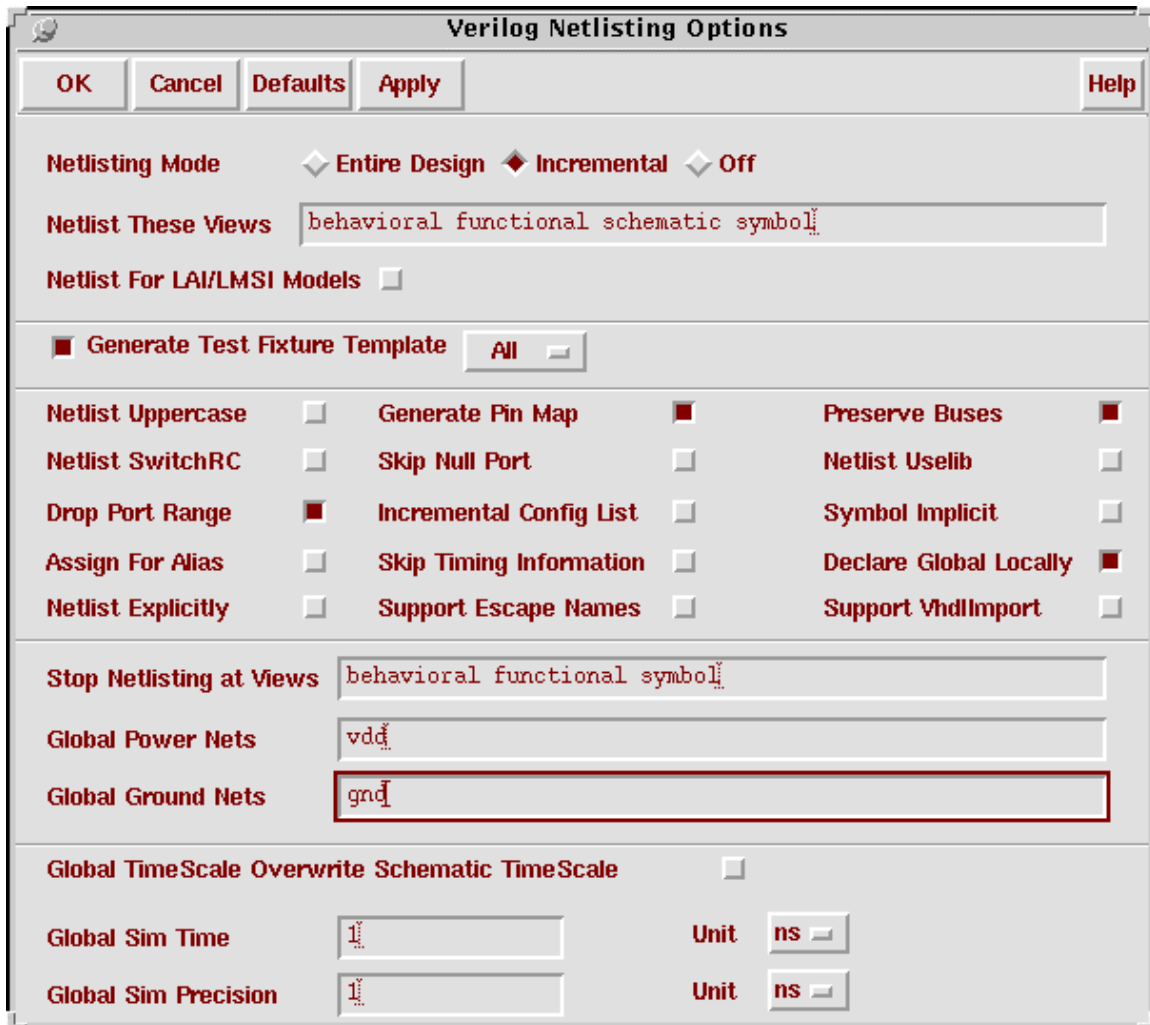

Fig 6: Additional Verilog Netlisting Options
Additional netlisting options are added to the form as shown in Fig 6.
- d. In Fig 6 set **Global Power Nets** to *vdd* and set **Global Ground Nets** to *gnd*.